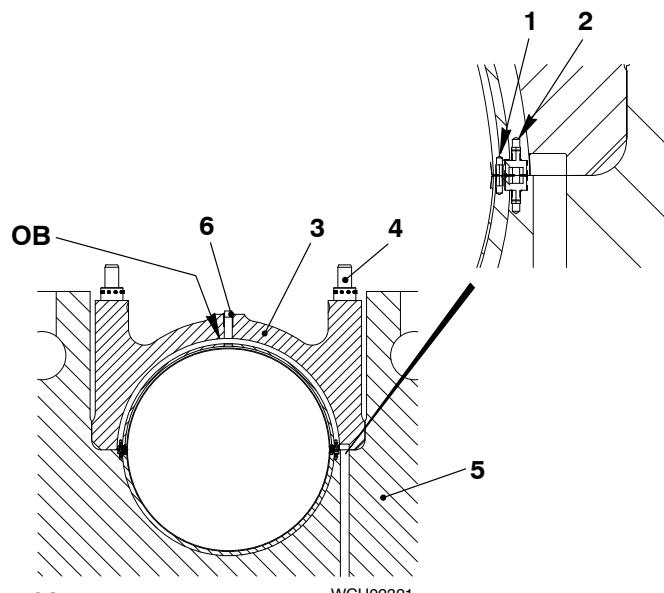
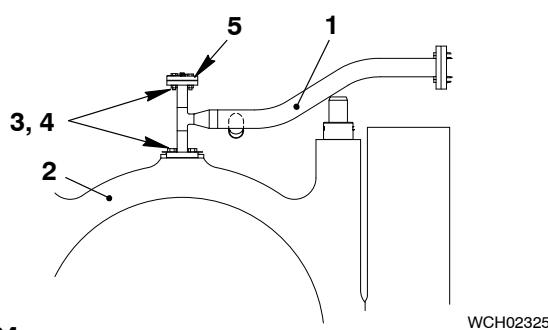

Fig. 23
Fig. 24
- 2) Remove all plugs from oil bore (OB).
Note: The top bearing shell is attached to the cover with two Allen screws (2, Fig. 23). The spring dowel pins (1) help to get the bearing cover (3) in position during the installation.
- 4) Clean all surfaces on the bearing cover (3) and the bearing girder (5).
- 5) Lower the bearing cover (3) on to the bearing girder (5). Make sure that the two spring dowel pins engage correctly.
- 6) Apply tension to the elastic studs (4), refer to 1132-1.
- 7) Tighten the round nuts (7).
- 8) Clean the pipes (1, Fig. 24).
- 9) Put the pipes (1), their gaskets and new tab washers (4) in position.
- 10) Tighten the screws (3).
- 11) Lock the screws (3) with the new tab washers (4).
- a) Remove the blank flange (6, Fig. 24).
- b) Remove the screw plug (5).